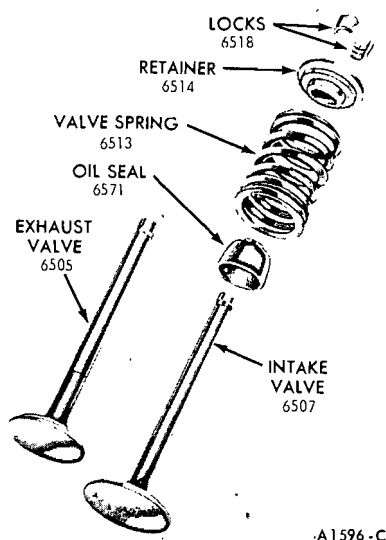

FIG. 33—Valve Assembly
1. Install each valve (Fig. 33) in the port from which it was removed or to which it was fitted. Install a new stem seal on the valve.